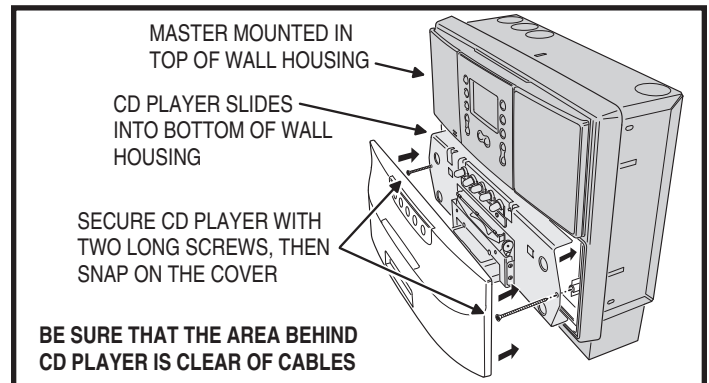

Figure 26. CD/MP3 Player into Wall Housing
13. Attach the CD Player to the wall housing using the two long screws provided as shown in Figure 26. DO NOT OVERTIGHTEN THE SCREWS THE FRAME MIGHT DISTORT OR CRACK!
14. Install the CD Player faceplate by pressing it onto the player (see Figure 26).